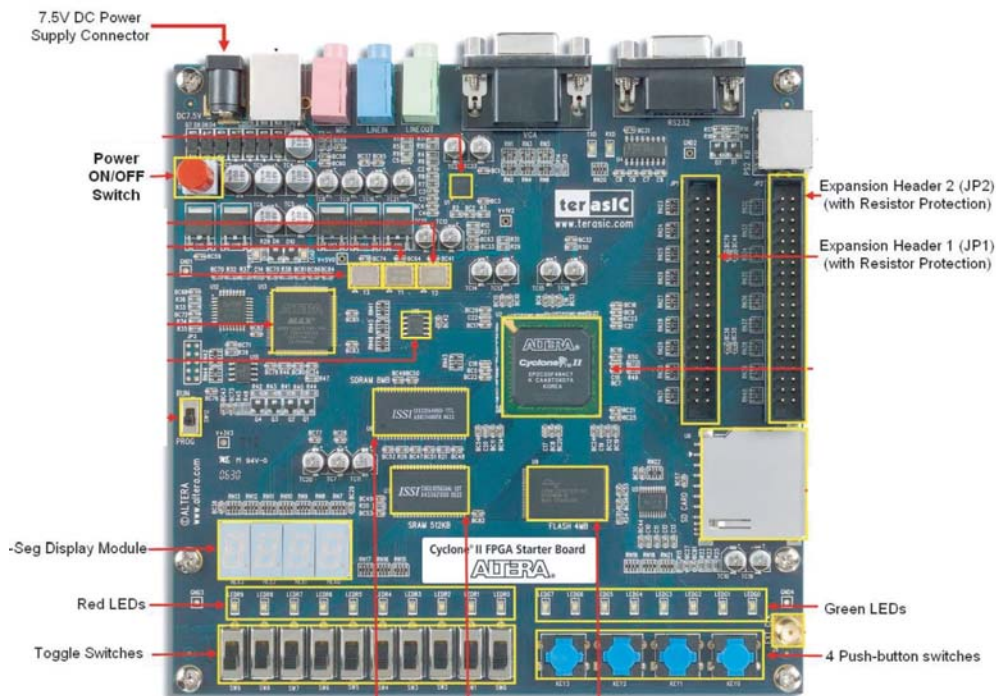
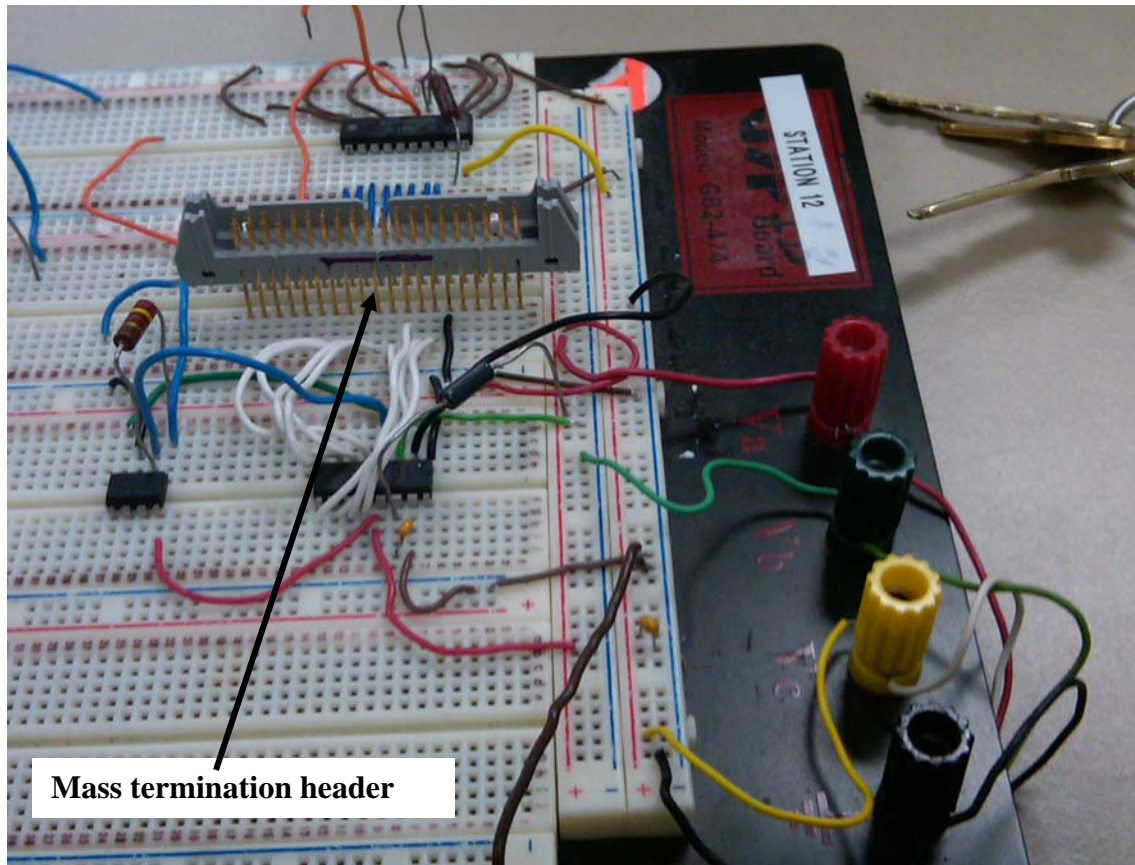

Fig. 1: The Programmable Logic Development Kit
Fig. 2: The mass termination header connected to the lab breadboard
The work for Unit 7 uses a digital logic development board¹ which has a programmable logic chip and a variety of input and output (I/O) choices including general purpose digital I/O lines, switches, LED's, and advanced functionality including audio and video outputs and a secure digital (SD) memory card slot. A photograph of the development board is shown in Fig. 1. The digital functionality for this course has been programmed into the boards. *Students are not required to do the programming*, but use the existing functionality to test analog-to-digital interfacing.
Step 1: The development kit is electrically attached to the lab breadboard by connecting the expansion header GPIO 0 (aka JP1, See Fig. 1) on the development kit to the standard lab breadboard using a 40-pin ribbon cable with the mass termination header connected to the breadboard (See Fig. 2). The connectors have a polarity, so make sure they are connected in the proper orientation.
Step 2: Once the kit and breadboard are connected, set all of the slider switches SW0-SW9 on the dev kit (See Fig. 1) down and plug in the development kit to the AC power from the silver power supply using the AC adapter in the dev kit box, and push the red